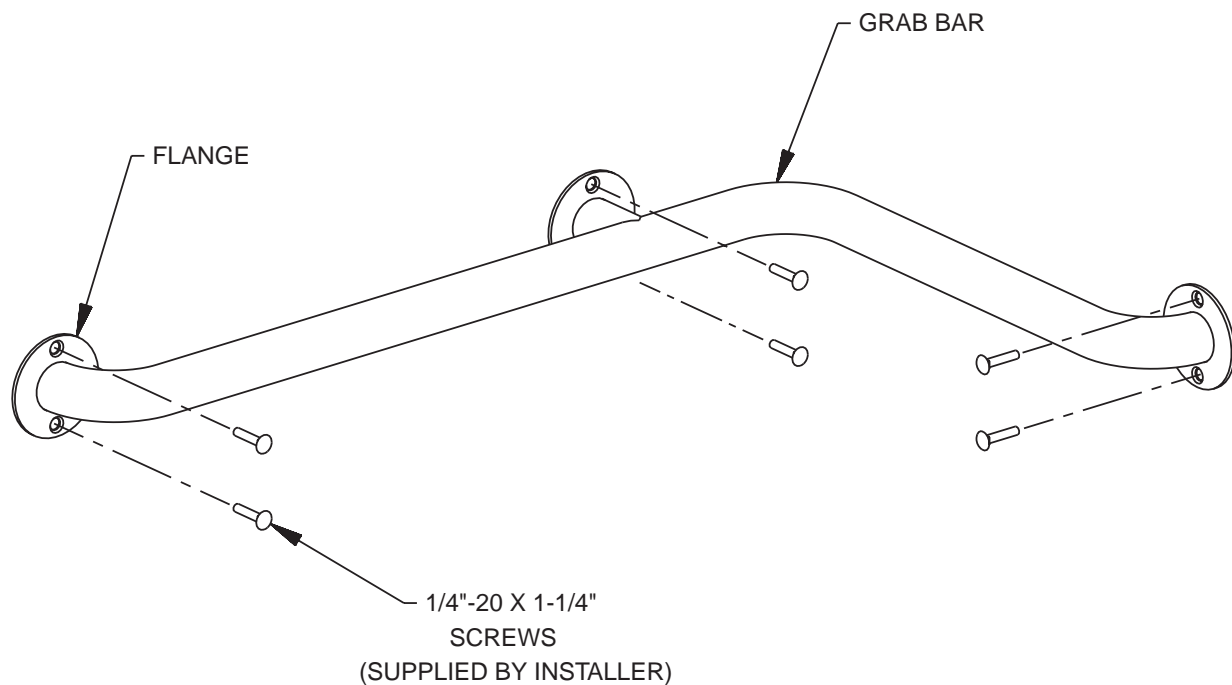

Figure 5
4. Mount grab bar to the six wall anchors using 1/4"-20 x 1-1/4 screws (supplied by installer) (or see Figure 5).